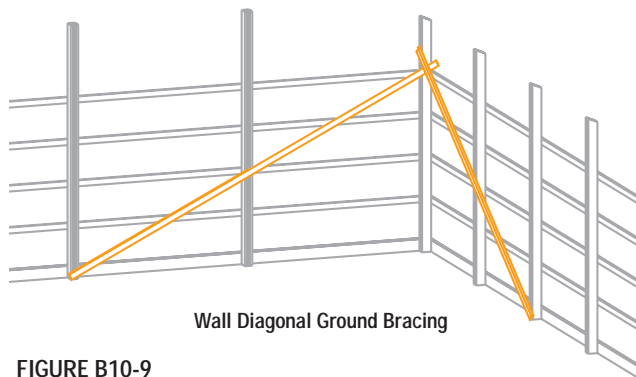
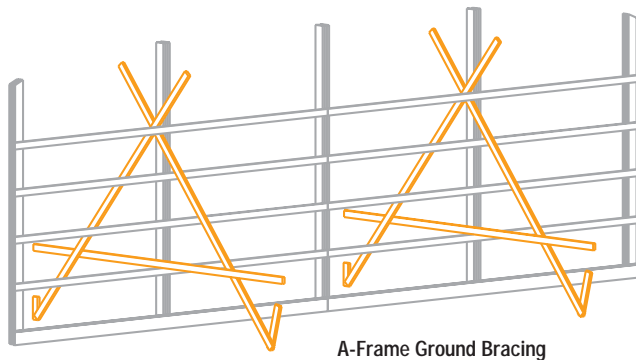

FIGURE B10-9
FIGURE B10-10
- a) Attach girts, splash board or Temporary Lateral Restraint and install a system of wood temporary diagonal Ground Bracing to provide support in the plane of the wall (Figure B10-9) and perpendicular to it (Figure B10-10).
- a) Attach girts, splash board or Temporary Lateral Restraint, and install a system of temporary diagonal Ground Bracing to provide support in the plane of the wall (Figure B10-9) and perpendicular to it (Figure B10-10).
- a) Temporary diagonal Ground Bracing (Figure B10-10, page 77) or